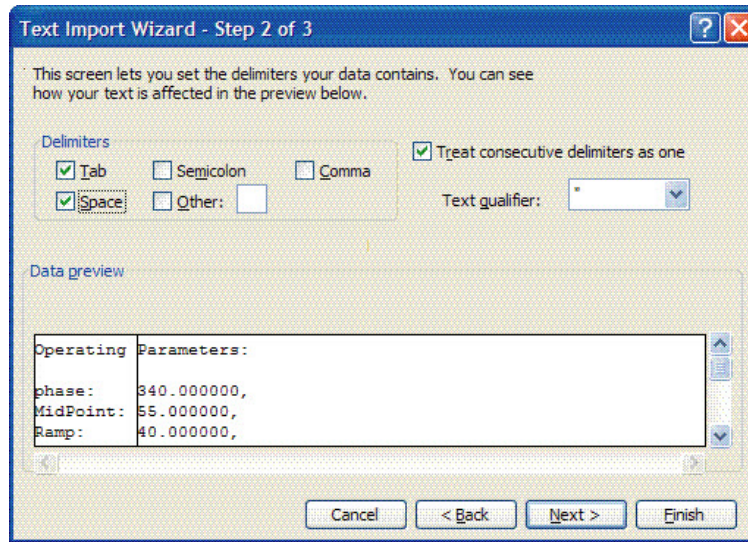

Figure 3-8 Setting Tab and Space as delimiters
3. Under **Delimiters**, choose the **Tab** and **Space** options, check the **Treat Consecutive Delimiters as One** box, as shown in Figure 3-8, and then click **Finish** to display the spreadsheet. The first few lines look like the normal serial output data received before the **Mode 6** command was entered. Look for the three columns of numbers at the bottom of the file.